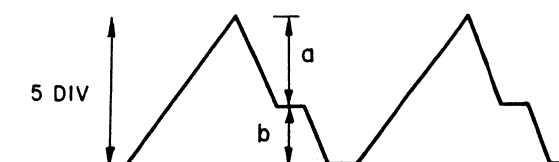

Fig. 9-2 Adjustment Waveform
4. When a waveform like that shown in Fig. 9-2 appears on the oscilloscope, adjust the oscilloscope gain so that the peaks agree with 5 Div. Then adjust VR001 so that a:b = 2.8:2.2. (Keep in mind that spurious noise is easily generated.)
6. Connect an oscilloscope (or a frequency counter) to pin ⑦ of PA2007 and confirm that output is 111Hz at 33-1/3 RPM and 150Hz at 45 RPM.